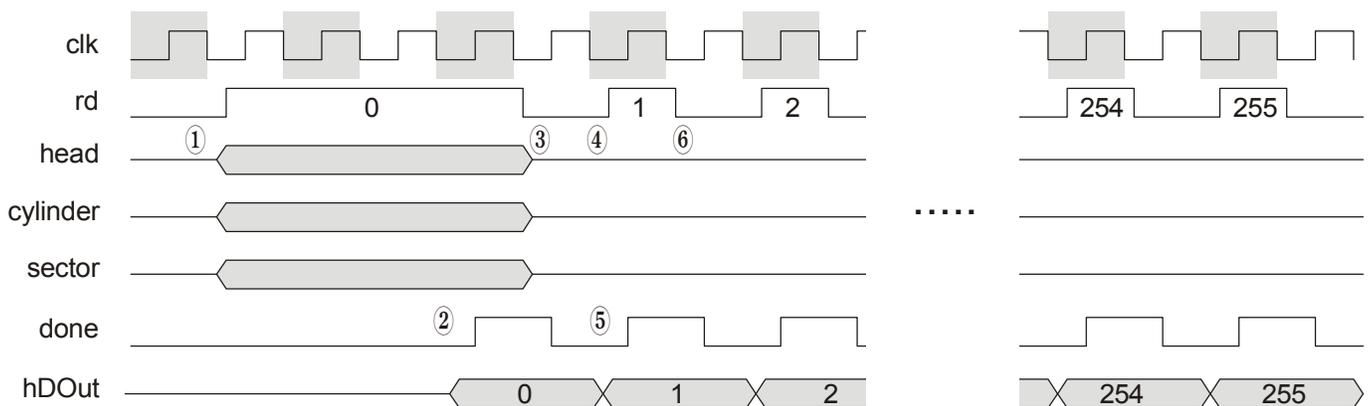

Figure 2: ATA controller read sector waveforms.
The waveforms for reading a disk/CF sector are shown in Figure 2. At ①, the host provides the head, cylinder and sector numbers and drives the read control line high. After this, multiple cycles are needed for the disk/CF to address and access the given sector. At ②, the first data word from the sector is output to the host on the hDOut bus and the done signal is raised. At ③, the host latches the value on hDOut and lowers rd before the next rising clock edge. The host raises the rd input at ④ to get the next data word from the sector. The ATA controller will respond quickly by raising done at ⑤ since the sector contents have already been buffered. Then the host latches the new data and lowers the rd input at ⑥. This procedure is repeated an additional 254 times to read the contents of the entire 256-word sector.